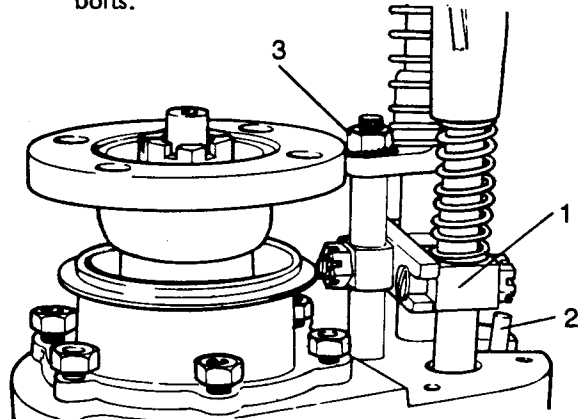

Fig H1.112
- (2) Refer to Fig H1.112. Position the selector shaft assembly (1) on the front surface of the front output shaft cover.
- (3) The locking pin (2) of the four wheel drive transmission is fitted in its housing and is introduced in the hole of the pivot assembly shaft. This will ensure the correct radial alignment between the pivot assembly shaft and the coupling.
- (4) Completely tighten the nut (3) to fix the coupling to the pivot shaft assembly.
- (5) Remove the locking pin, and remove the selector shafts, as an assembly.